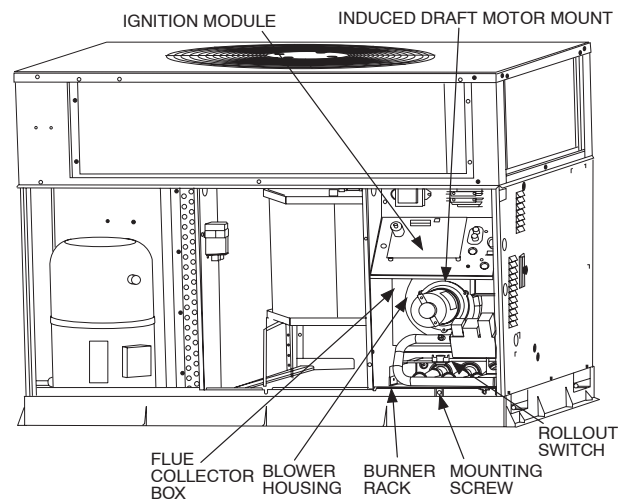

Fig. 18 - Blower Housing and Flue Collector Box
Unit is equipped with a direct spark ignition 100 percent lockout system. Ignition module is located in the control box (See Fig. 18). Module contains a self-diagnostic LED. During servicing, refer to label diagram for LED interpretation.
7. Remove the mounting screw that attaches the burner rack to the unit base (See Fig. 18).
8. Slide the burner rack out of the unit (See Fig. 18 and 21).